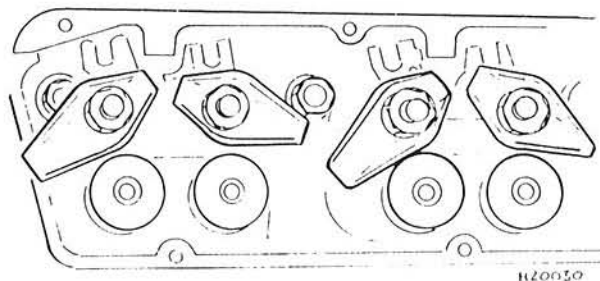

Fig. 1.10 Turn the rocker arms to one side to remove the pushrods (Sec 47)
- 14 Loosen the rocker arm adjusting nuts until the rocker arms can be turned aside (Fig. 1.10) then remove the pushrods and lay them out in line, or push their ends through a sheet of paper on which their position in the engine can be noted. It is very important that the pushrods are refitted to the same valve as that from which they were removed.